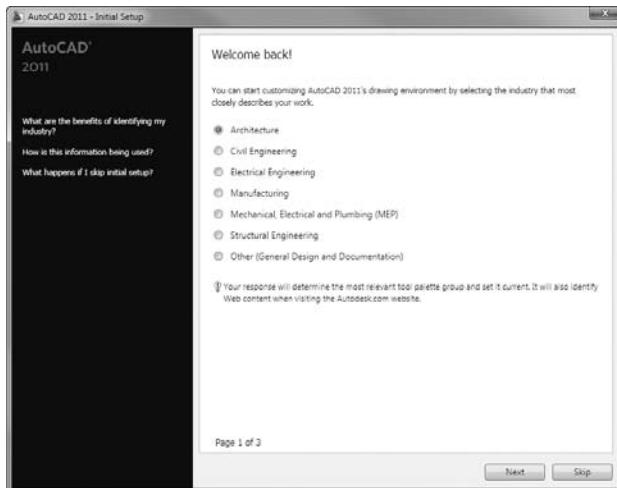

FIGURE 16.2 Choosing the industry in the first Initial Setup window
2. From the Initial Setup Wizard, choose Architecture from the list of industries in the first window and then click the Next button (see Figure 16.2).